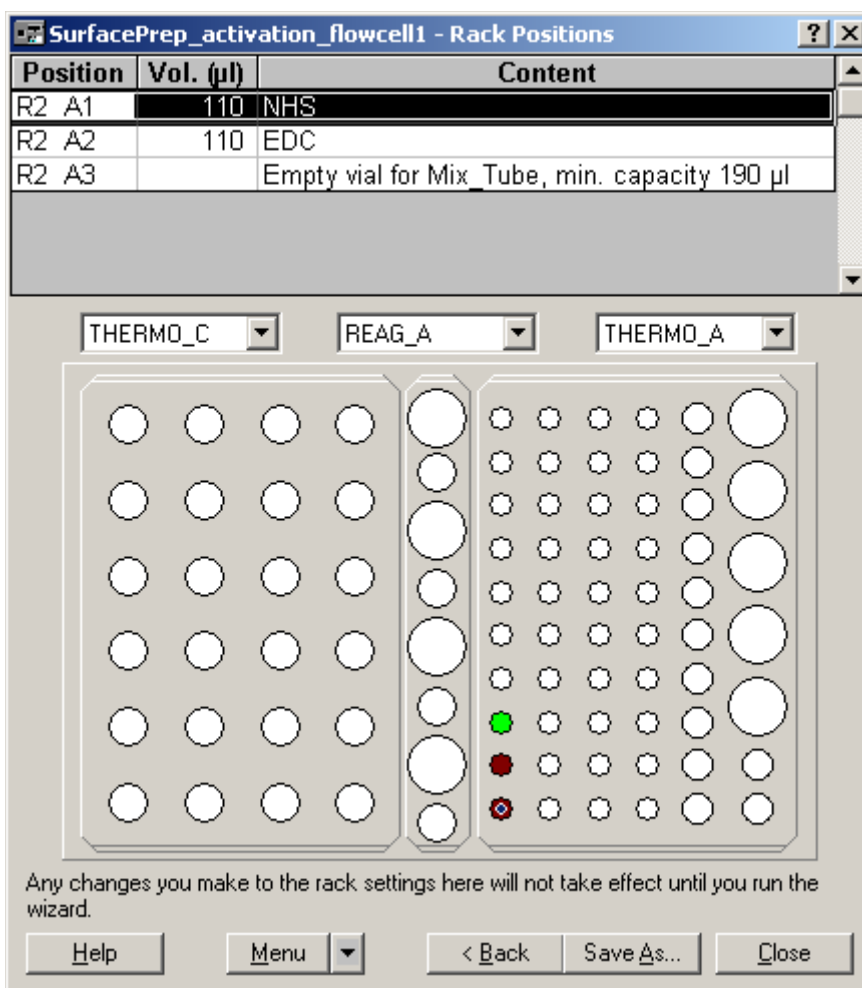

Figure 2.13
- 2.16.1 Place 110  $\mu$ L of NHS and EDC into 7 mm polypropylene vials and an empty vial into the rack positions displayed in figure 2.13. (The location of each reagent can be changed by the 'Drag and Drop' method (Hold the left mouse key to drag and drop).